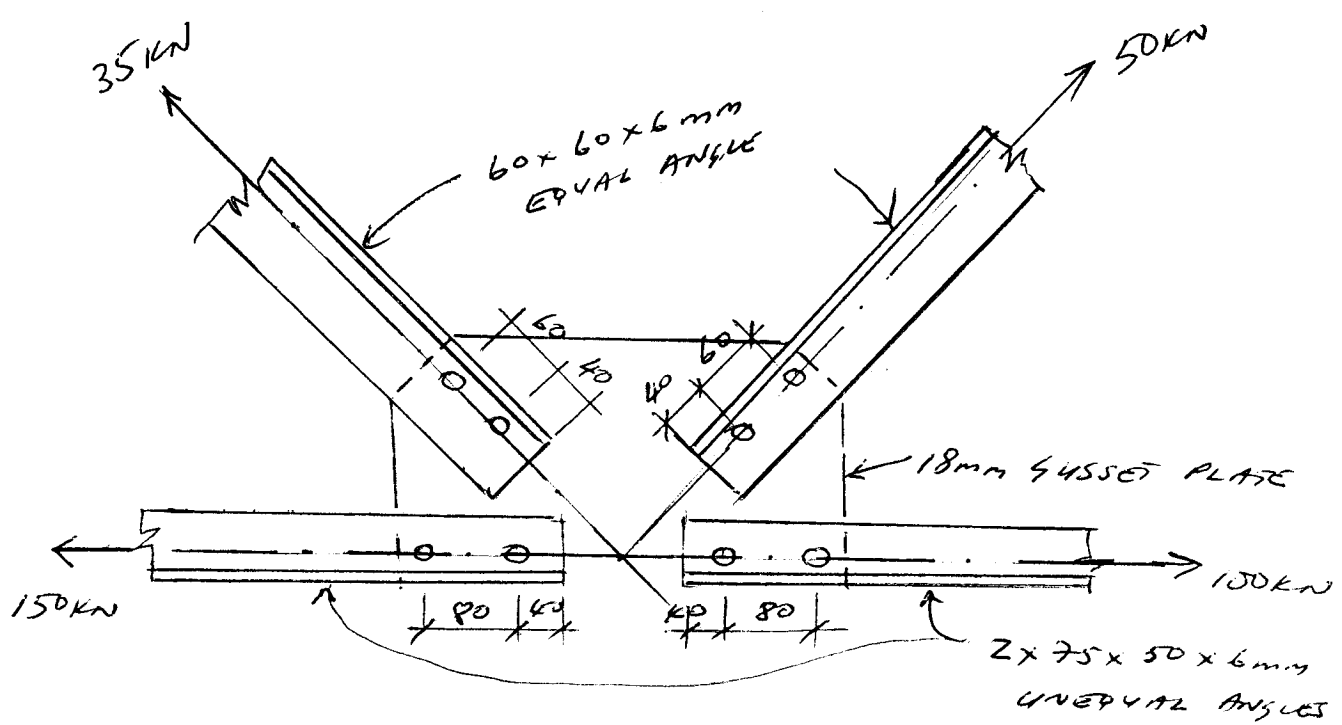

FIG 5.0
- 8.0 Calculate the strength of bolts as shown in Fig. 5.0. The grade of steel in 43 and the gusset plate is 18 mm thick. The bolts are M20 grade 4.6 black bolts, in 22mm clearance holes. **10 marks**